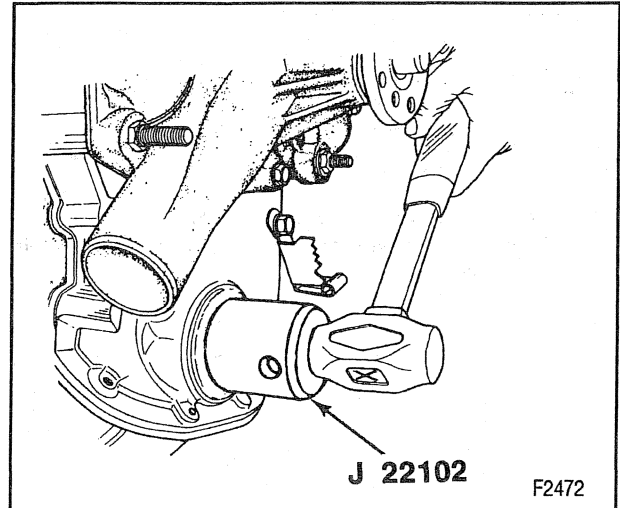

Figure 21—Installing the Front Crankshaft Seal
### Install or Connect (Figure 21)
1. New front crankshaft seal. Use tool J 22102 (figure 21). Lubricate the seal lips with engine oil.
### Install or Connect (Figures 21, 22 and 23)
1. New front crankshaft seal to the front cover. Use tool J 22102 (figure 21)